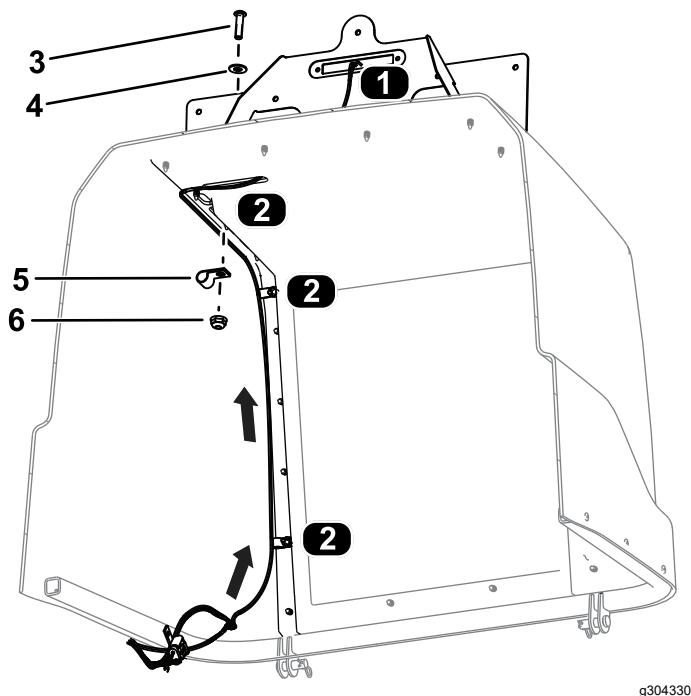

Figure 38
9. Route the wire-harness connector labeled LICENSE LIGHT (J01, J02) through the hood and connect it to the license light (Figure 38).
10. Secure the wire harness to the hood using 3 hex-socket screws (1/4 x 1 inch), 3 flat washers, 3 clamps, and 3 flange nuts (1/4 inch) as shown in Figure 38.